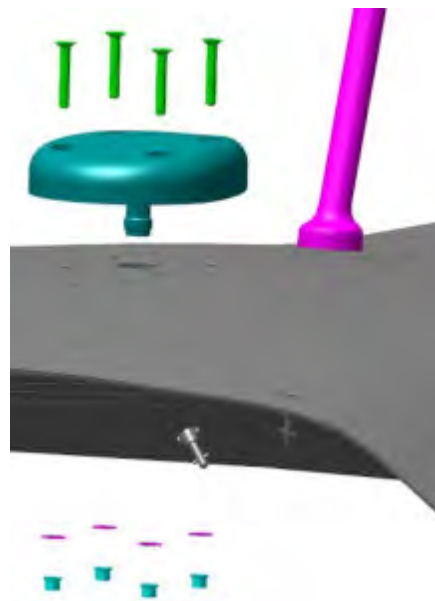

FIGURE 14-79
3. Remove NAS1149CN816R washers and unscrew 4 MS21043-08 Nuts from Garmin antenna and engine cowl. (See Figure 14-79.)